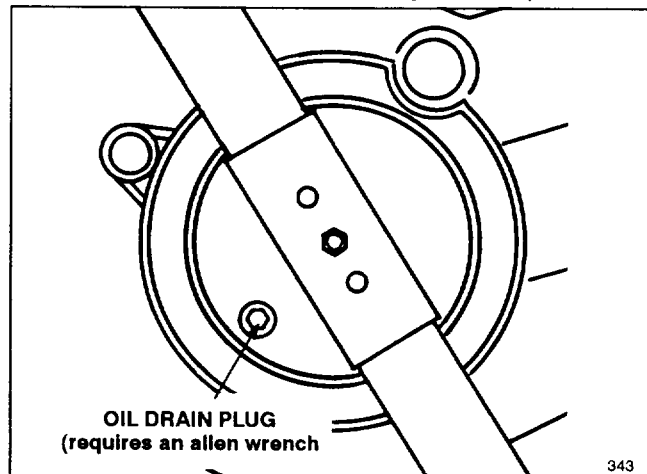
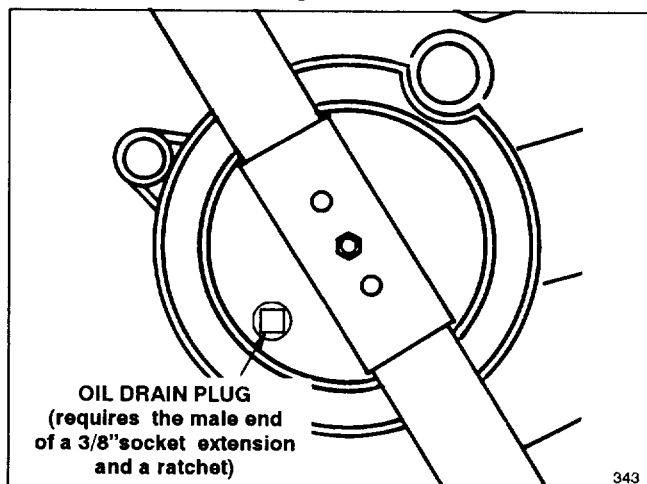

Figure 13
Figure 14
3. The oil drain plug is on the underside of the mower deck (Fig. 13 & 14). The recommended procedure for tipping the mower to access the plug is to tip the mower backward onto its handle and have someone firmly hold the mower in this position while you remove the plug. **DO NOT TIP MOWER ON SIDES OR FORWARD WHEN DRAINING OIL.**
5. Remove drain plug from underside of mower using a 5/16" allen wrench (Fig. 13) or the male end of a 3/8" socket extension with a ratchet for turning (Fig. 14). Plug style will vary.